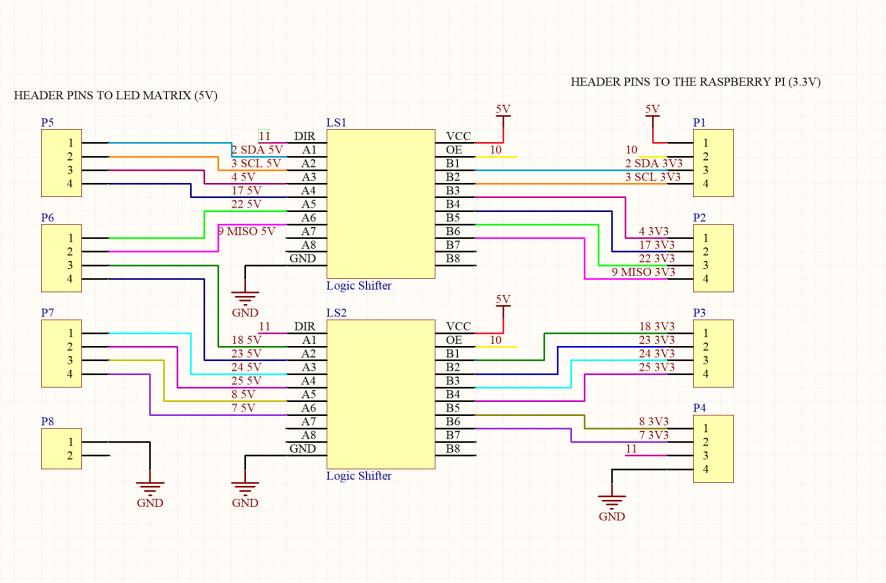
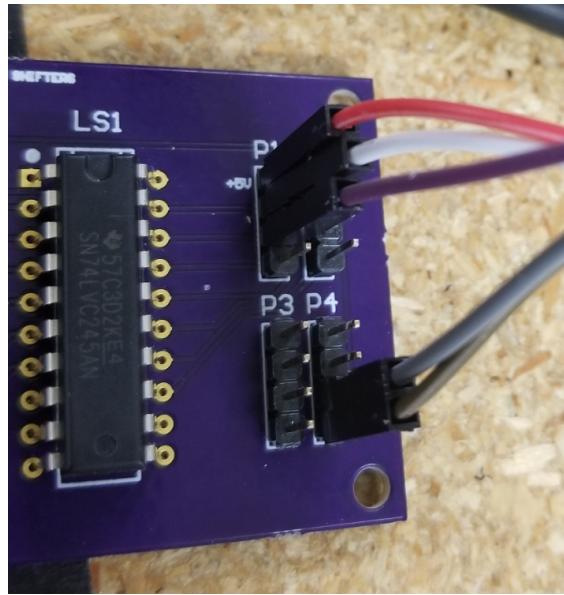

Figure 17: Logic Shifter schematic
Figure 20: Board Connections
In Figure 17 the wire labels correspond to the name of the GPIO pin the signal comes from on the raspberry pi. All pin numbers that lead to the Raspberry Pi represent GPIO pin numbers, NOT physical pin numbers. For instance, for header P2, pin 1 is labelled with "4 3V3". This should be connected to GPIO pin 4 on the Raspberry Pi (physical pin 7). The data sheet for the logic shifter IC chip can be found at:
2. Now, you will need to run connections to the board from the Raspberry Pi. Figure 17 shows which pins on the board are connected to which pin on the Raspberry Pi, with the exception of the purple wire, which will be using to test the signals and drive it from the 3.3V DC power pin on the Raspberry Pi. Figure 20 shows which of these we will need to start connecting the board to test.
6. Repeat this process for the rest of the pins, following along with the circuit diagram in Figure 17, making sure each channel of the shifter is working correctly.